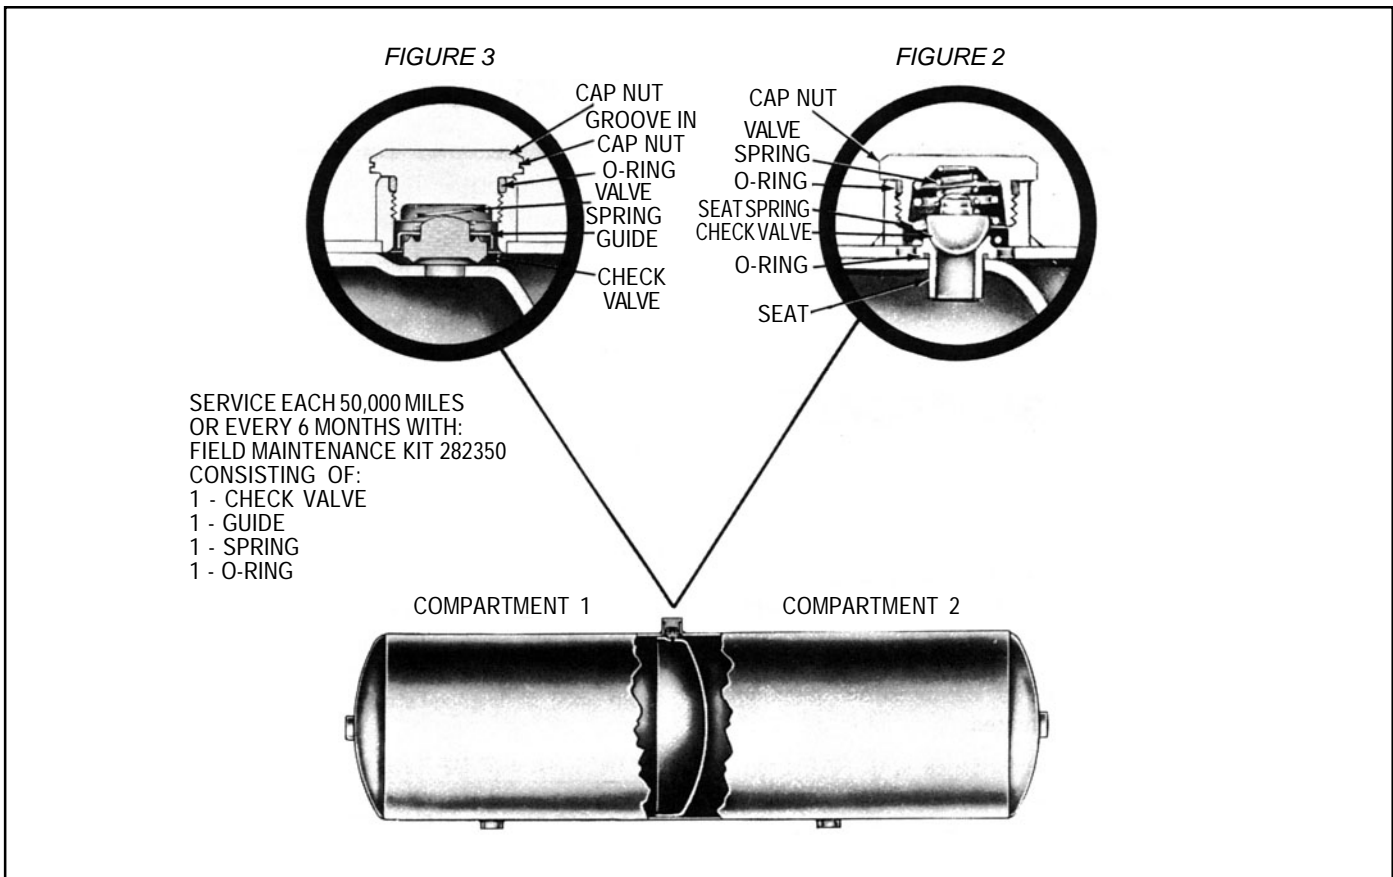

FIGURE 1 - TWO COMPARTMENT RESERVOIR WITH CHECK VALVE
Reservoirs are also supplied in double and triple compartment configurations and in some cases include an integral check valve between compartments in a double compartment reservoir. Figure 1 illustrates a two compartment reservoir. Two styles of check valves are shown in Figures 2 and 3. Figure 3 is the current design.
3. Completely drain compartment #1 (see Figure 1).